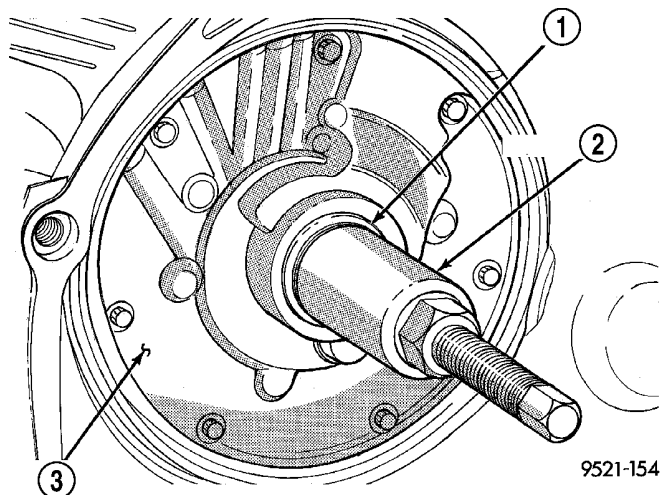

Fig. 14 Remove Pump Oil Seal
(1) Screw seal remover Tool C-3981-B into seal (Fig. 14), then tighten screw portion of tool to withdraw the seal.